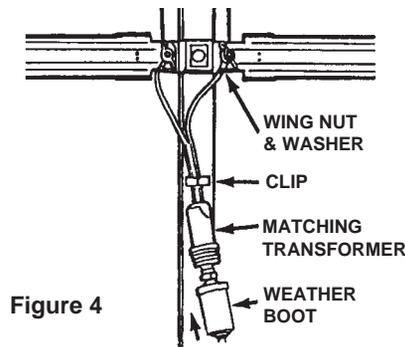

Figure 4
**STEP 8.** Attach matching transformer to download stud rivets with washers and wing nuts supplied from hardware bag. See Figure 4.
**STEP 9.** Screw coax download onto matching transformer, making sure to slide weather boot over connection. See Figure 4.
**STEP 10.** Secure matching transformer to retaining clip. See Figure 4.